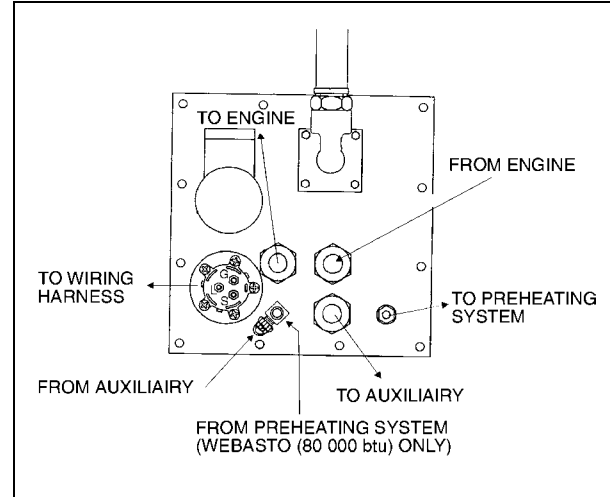

FIGURE 5: FUEL TANK CONNECTION PLATE
4. If applicable, Unscrew preheater supply line, preheater return line, auxiliary return line and/or auxiliary return line from fuel tank connection panel (Fig. 5).
Disconnect electric wiring from tank (wires 0, 76 and 76C from terminals G, S and L, on connection plate (Fig. 5).